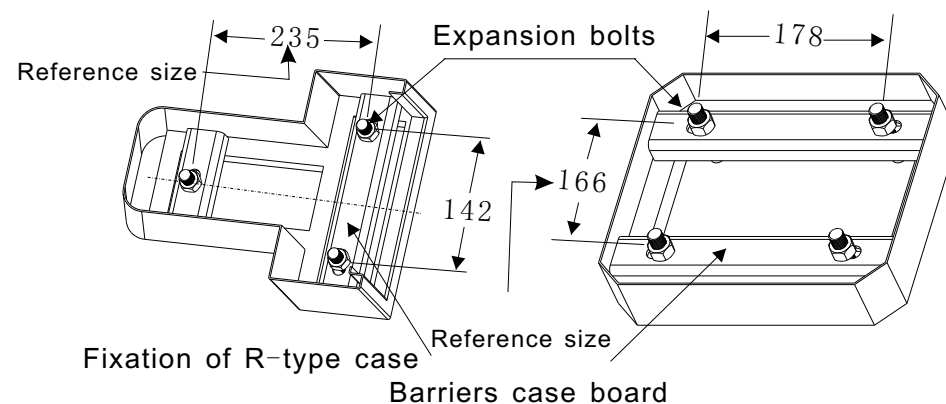

Fig. 3
7. 1. 1) Please select the right type of the barrier gates according to the specifications of the place. Fix the barrier gate case board with expansion bolts (refer to the fig. 3)